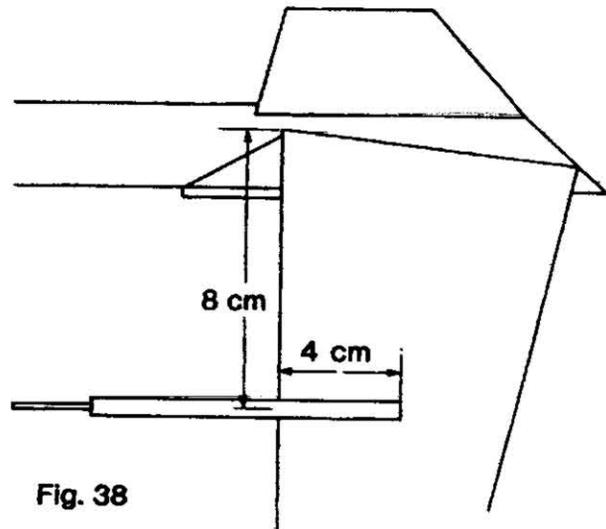

Fig. 38
**C** The remaining two Cannons go on the underside of the Strike Vehicle's Wings. Again, refer to the drawing for guidance in properly placing the Cannons (Fig. 38).